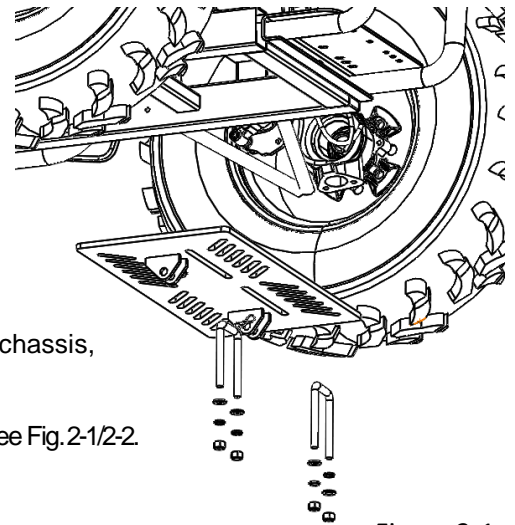

Figure 2-1
1. Mount the snow plow mounting brackets on the chassis, as shown in figure 2-1. Use four U bolts and the 3/8" locking nuts in the provided holes. See Fig. 2-1/2-2.